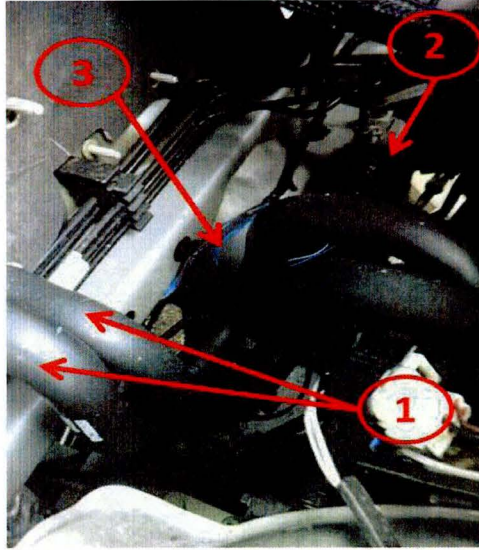

Fig. 1 Purge Solenoid Wire Harness
11. To ensure that the purge solenoid wiring harness (Fig. 1) does not come in contact with the heater hoses, the wire harness will require a slight modification.